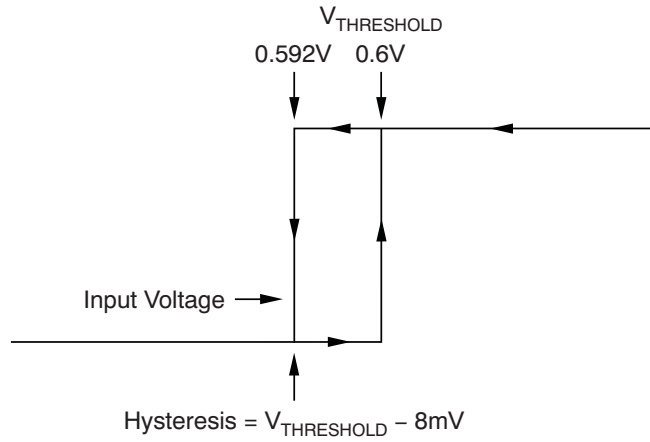

Figure 1. Typical Comparator Hysteresis
- (1) Hysteresis refers to the threshold (the threshold specification applies to a rising edge of a noninverting input) of a falling edge on the noninverting input of the comparator; refer to Figure 1.
- (2) Specified by design.
- (3) V_{ID} refers to the differential voltage at the comparator inputs.
- (4) Open-drain output can be pulled to the range of 2.7 to 18 V , regardless of V_S .
- (5) The comparator response time specified is the interval between the input step function and the instant when the output crosses 1.4 V .
- (6) The RESET input has an internal $2\text{ M}\Omega$ (typical) pull-down. Leaving RESET open results in a LOW state, with transparent comparator operation.